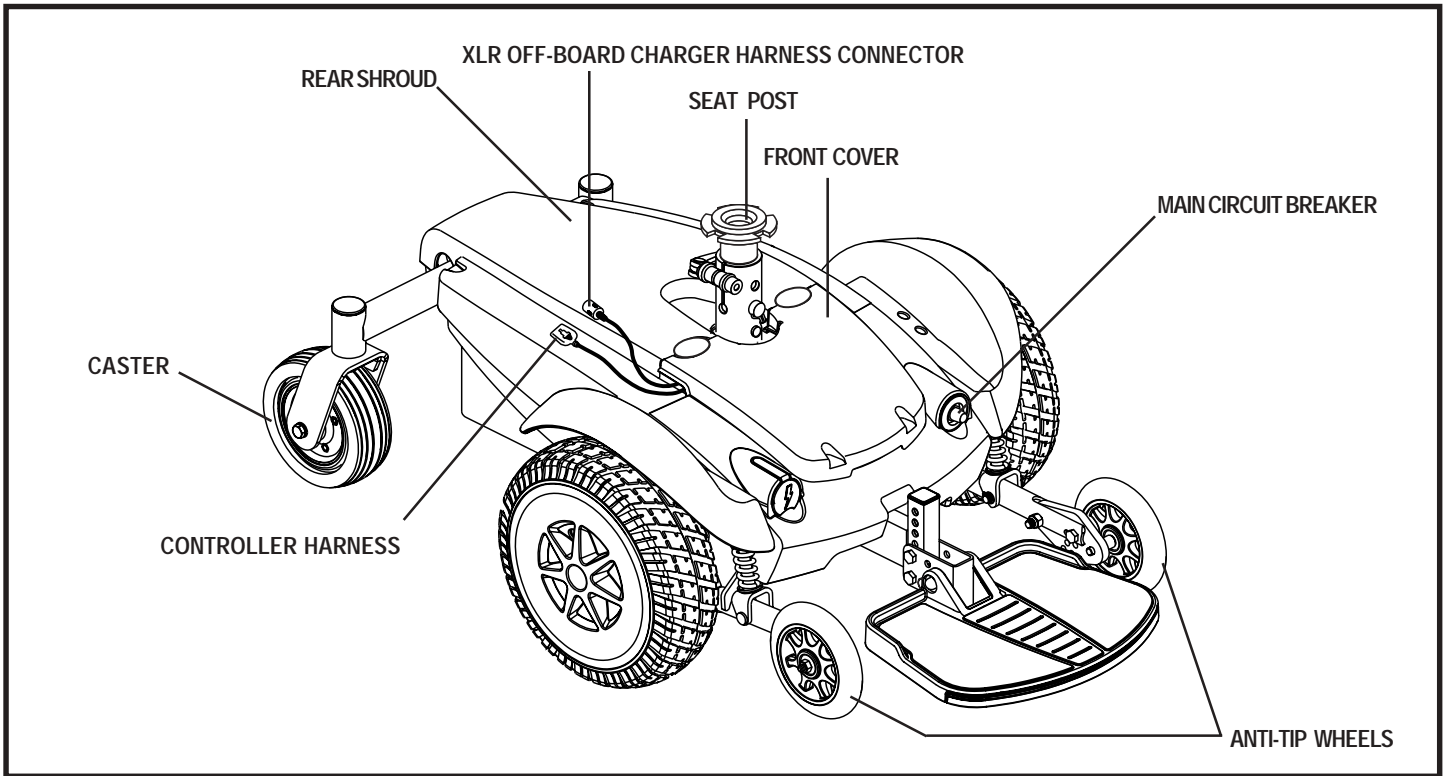

Figure 6. The Jazzy Select Power Base
The electrical components are located either on or inside the power base. The main circuit breaker is located on the front of the power base. The power module is located under the front cover. See figures 6, 7, and 8.
5. Plug the controller cable into the connector on the power base. See figure 6, 7, or 8.